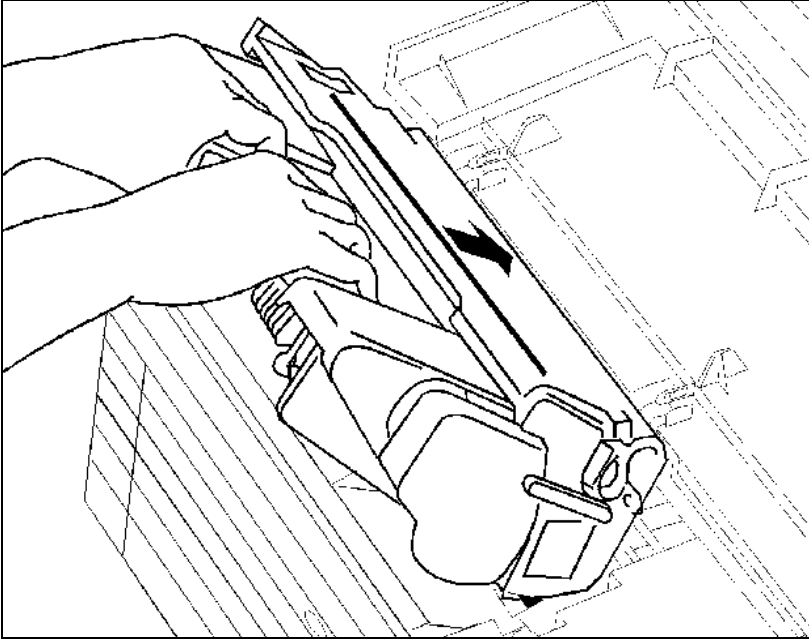

Figure 4-4 **Inserting the Toner Cartridge**
- 4 Position the cartridge with the arrow pointing into the printer as shown in Figure 4-4.